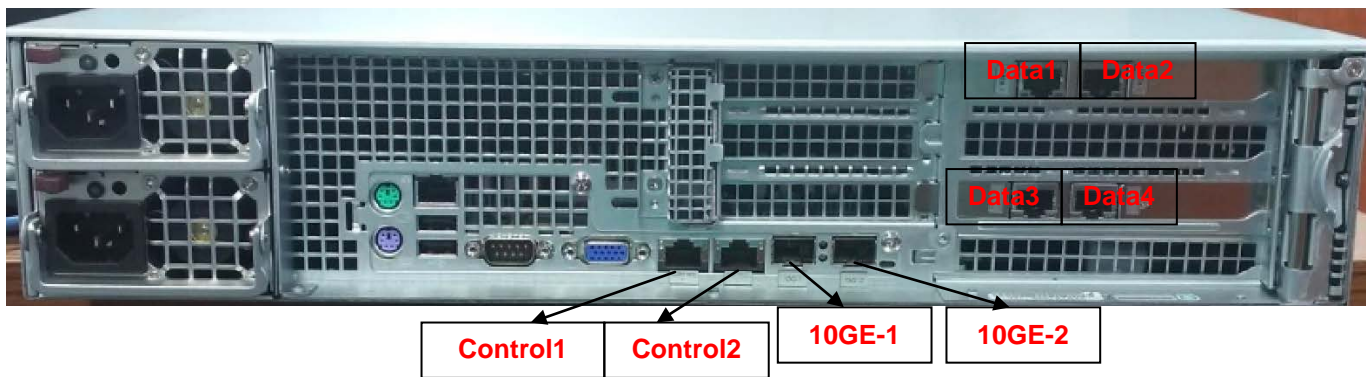

Figure 3-2 : TSMIP-10GE Rear Panel
1. Connect the Ethernet cable to the CONTROL Ethernet ports on the rear panel and the other end to an Ethernet switch. See Figure 3-2.